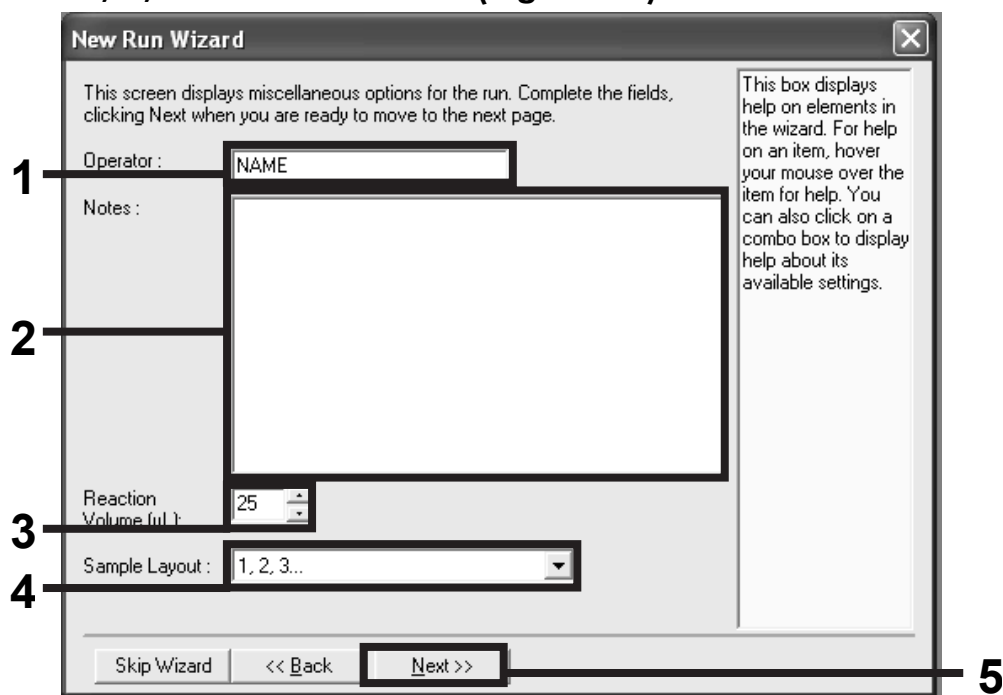

Figure 16. Entering operator name and reaction volumes.
5. Enter the name of the operator. Add any notes and enter the reaction volume as 25. Ensure that “**Sample Layout**” reads “**1, 2, 3...**”. Click “**Next**” (Figure 16).